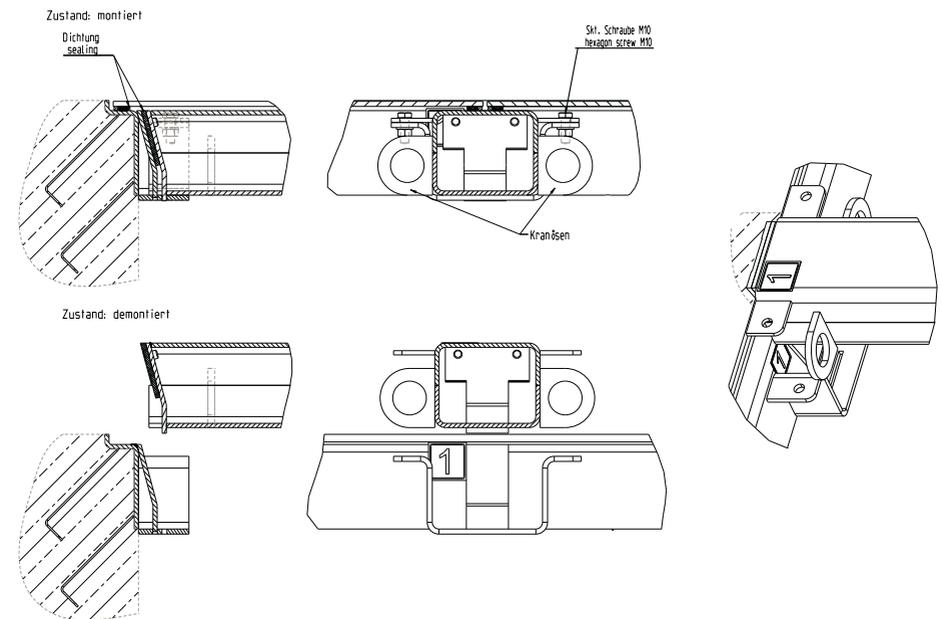

Fig. 13 – SD7 cross bar
4. Use lifting devices to lift the cross bar carefully and smoothly out of the receiving fixtures → Do not tilt the cross bar. Store the cross bar in a safe place. Mark cross bar to prevent swapping or twisting during reassembly. As a rule, this is already indicated ex works by stickers on the frame and cross bar. (see figure 13)
1. Use lifting devices to insert the cross bar carefully and smoothly into its receiving fixtures. → Do not tilt the cross bar. Pay attention to the orientation of the cross bar. Numbers on frame and cross bar must be identical. (see figure 13)